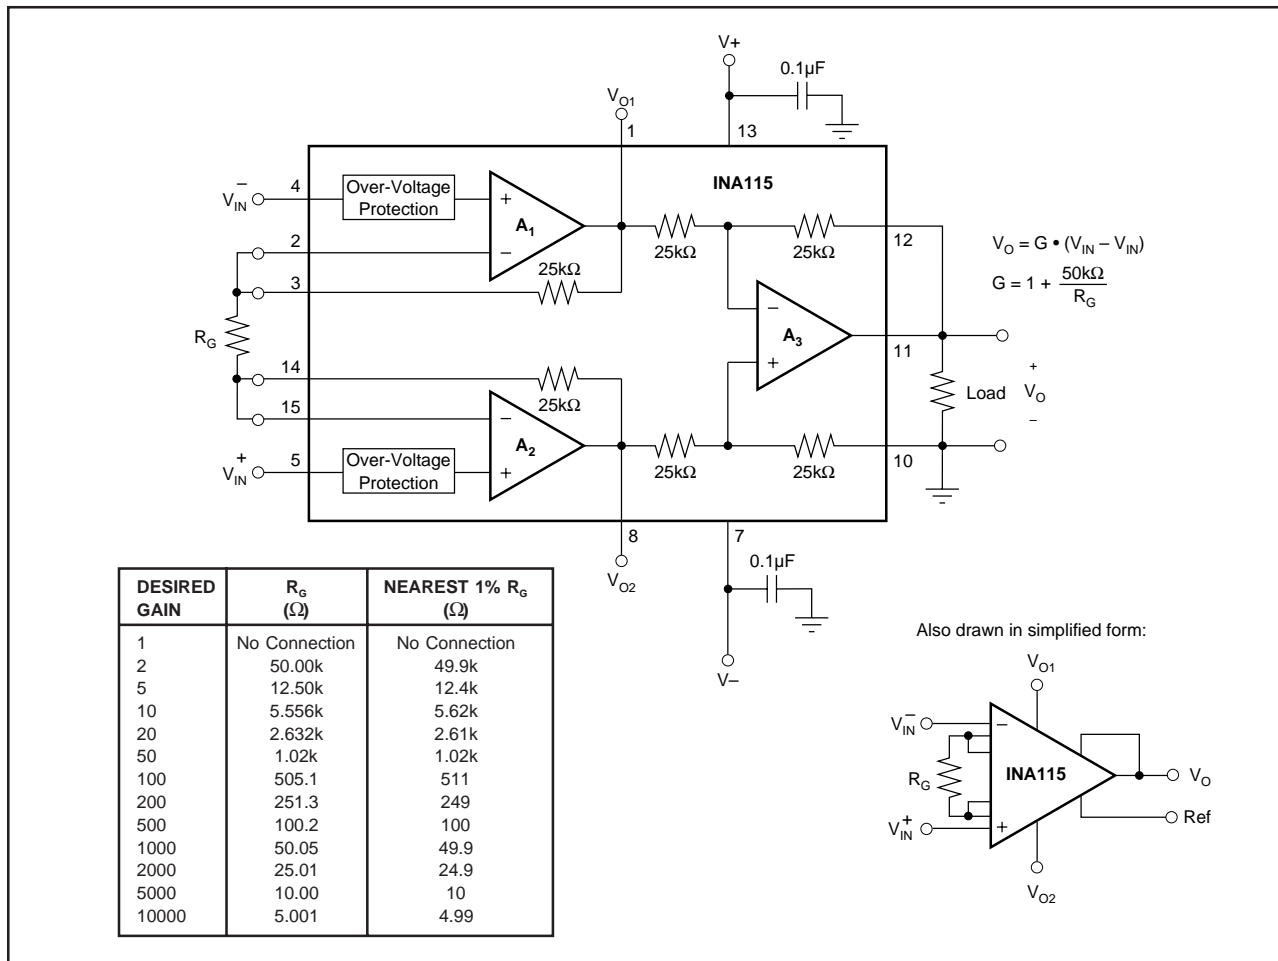

FIGURE 1. Basic Connections.
Figure 1 shows the basic connections required for operation of the INA115. Applications with noisy or high impedance power supplies may require decoupling capacitors close to the device pins as shown.
Commonly used gains and resistor values are shown in Figure 1.
The stability and temperature drift of the external gain setting resistor, R_G , also affects gain. R_G 's contribution to gain error and drift can be directly inferred from the gain equation (1). Low resistor values required for high gain can make wiring resistance important. The “force and sense” type connections illustrated in Figure 1 help reduce the effect of interconnection resistance.